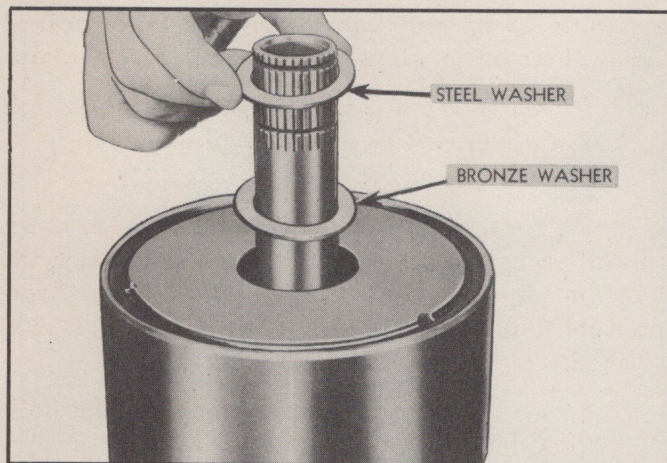

Fig. 245—Installing Front Unit Thrust Washers
17. Install bronze, then steel thrust washer over planet carrier (Fig. 245).